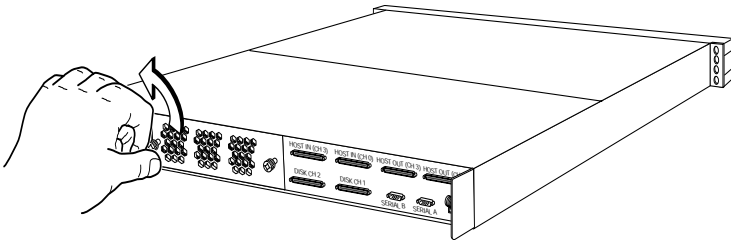

Figure 5-2. Releasing the Cooling Fan Module
- 1 Loosen the screws that secure the cooling fan module to the RAID appliance. See Figure 5-2.